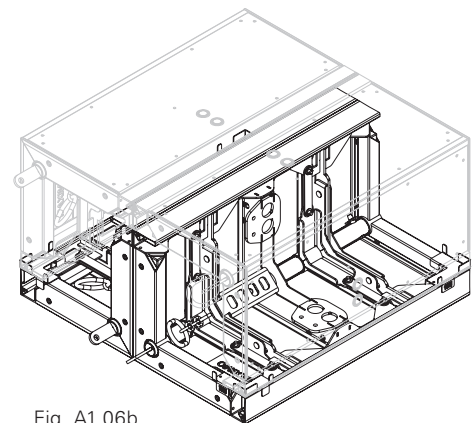

Fig. A1.06b
- four shaft corners: install Stacking Aids MX Flat (7) only on the corners at the bottom. (Fig. A1.06b + A1.06c)